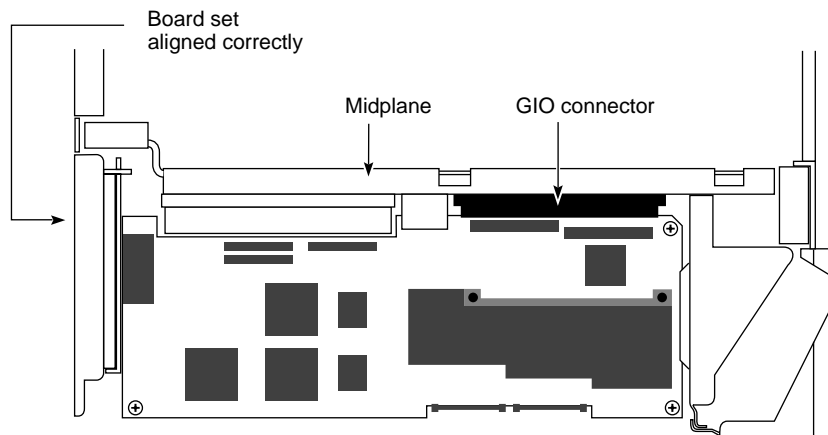

Figure 2-25 Board Set Correctly Aligned
2. Visually check that the boards are completely seated in their connectors when viewed from above (see Figure 2-25).